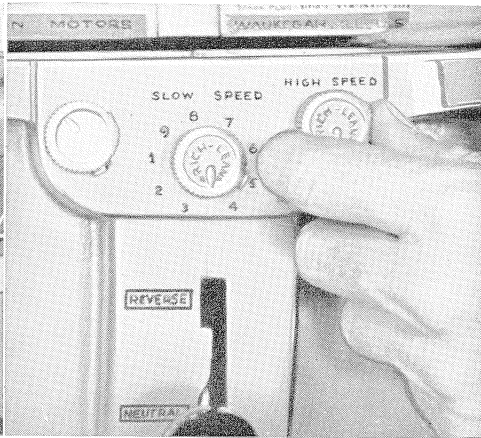

Figure 16
8. WHEN IN FORWARD ONLY, advance control (speed) lever to "fast" position. Run motor several seconds to warm up. Turn high speed needle knob to right or left as required to obtain maximum top speed performance. Speed range is automatically limited when in reverse (Fig. 16).
Start motor as previously instructed, set shift lever to "forward" position and allow to run at top speed (move control lever to "fast" position) until normal operating temperature is reached. Turn "high speed" needle knob to right or left as required to obtain maximum performance (Fig. 16). This adjustment should be performed only with control (speed) lever set for top speed—position "fast" (spark at full advance and carburetor [throttle] at full open).
To remove the side cover, disconnect fuel connector, remove the knob on the high speed needle valve (Fig. 16). Remove the spark plug cover and the five screws holding the two side covers together (Fig. 27). Remove the two screws below the polished strip which hold the side cover to the rubber mounting. The side cover may then be easily removed.